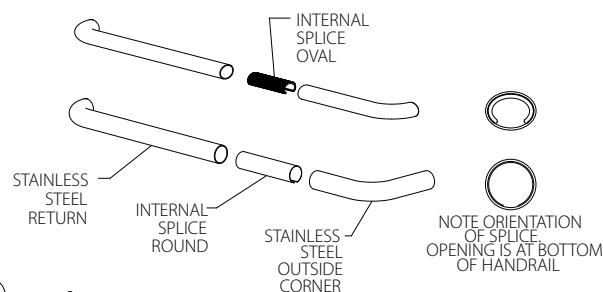

FIG. 3b
- c. Straddle bracket saddle equally on either side of splice. See Fig. 3b.